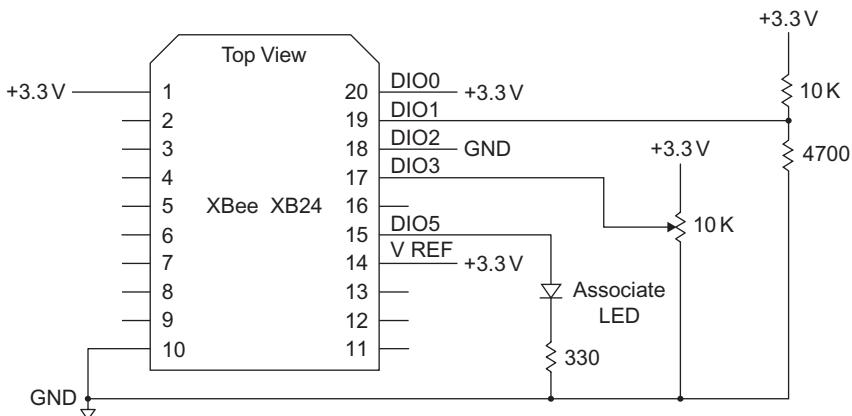
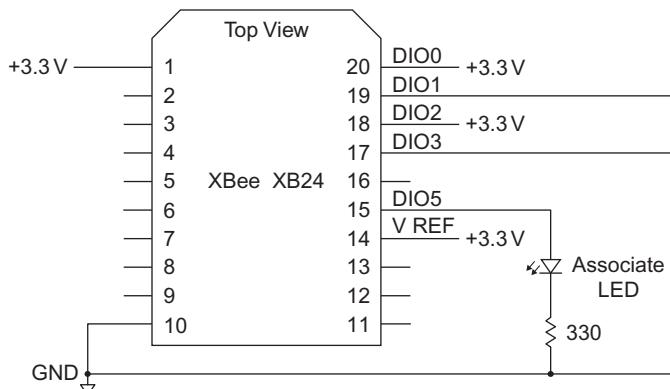

FIGURE 21.1 Circuitry needed to provide an End-device module with two digital and two analog inputs.
FIGURE 21.2 Minimum added circuitry for additional End-device modules.
Step 3. Place one of your End-device modules in an XBee adapter on your solderless breadboard and add the components shown in Figure 21.1. If the module has any other components or wires attached to it, please remove them now. The two digital inputs and two analog inputs provide information this End-device module will transmit to the Coordinator module.
solderless breadboard. Connect the LED-and-resistor circuit at this module's DIO5 – Associate pin (pin 15) as shown in Figure 21.2. Then add the other connections to ground and +3.3 volts as shown in the same figure. If this XBee adapter has any other components or wires connected to it, remove them now. If you have more than two End-device modules, I recommend you place additional End-device modules in separate solderless breadboards.
Step 5. After you have set up the circuitry shown in Figure 21.1—and in Figure 21.2 for additional End-device modules—turn on power to these modules. The End-device XBee module or modules should associate with the Coordinator attached to your PC, and the LED at each End-device module should flash to indicate proper network association. Use the X-CTU Terminal window to send an ATND command to the Coordinator to ensure it can discover all End-device modules, which should respond with their addresses. Remember the hexadecimal addresses do not include leading zeros. A response from *one* End-device module should appear in this form:
Turn off power to the breadboard and leave the End-device module with the resistors and potentiometer attached to it in the breadboard (see Figure 21.1). Remove the Coordinator module from the USB-to-XBee adapter, and set it aside.
If you have set aside a second End-device module, you can place it in another breadboard and add the connections shown earlier in Figure 21.2. You also could place an additional End-device module in the USB-to-XBee adapter. This XBee module would obtain power through the USB cable, but it will not communicate with the PC.